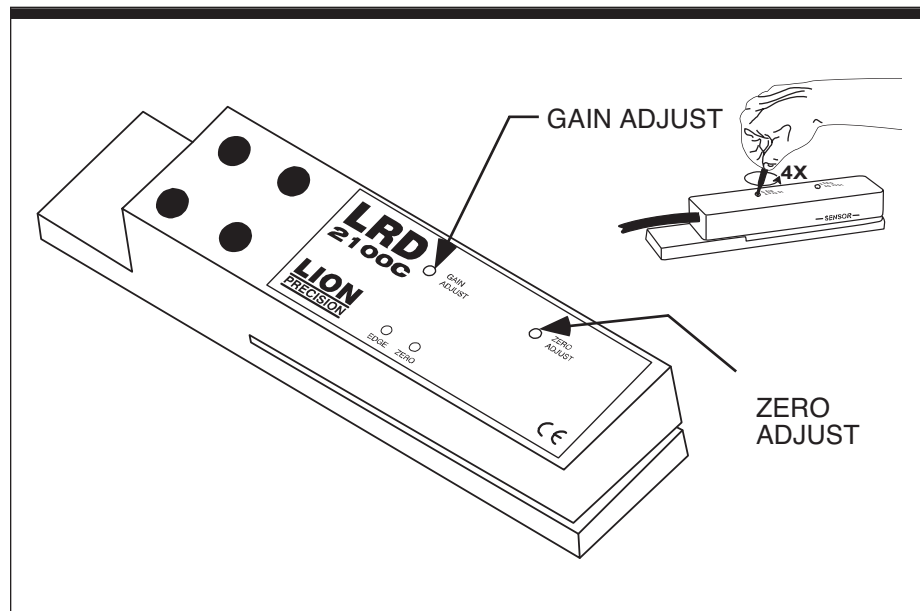

Figure 4-10. Retroreflective Mode Alignment
Step 2. Gain Adjust. Center "GAIN ADJUST" (see Figure 4-10) - Turn GAIN ADJUST four (4) turns counter-clockwise, then turn GAIN ADJUST two (2) turns clockwise.